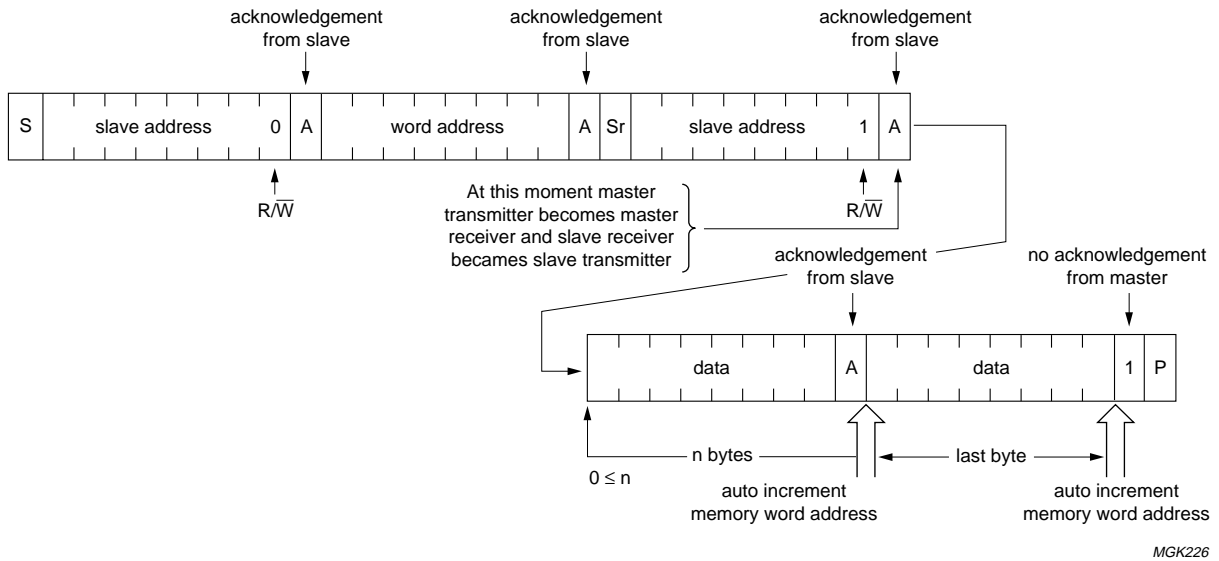

Fig.18 Random Read.
If the master wishes to read more bytes, it generates an Acknowledge ( $A = 0$ ) after receiving each byte (Sequential Read). Any number of bytes can be read; the address pointer will wrap-around to address 00H when the highest address is read. To end Sequential Read, the master generates a No-acknowledge ( $A = 1$ ) and a Stop (P). Figure 18 shows the Random Read and Sequential Read procedure.